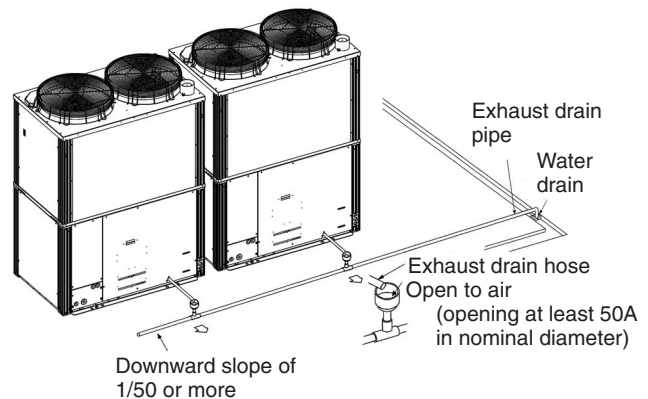

Fig. 13 Draining the exhaust into a water drain (roof)
- If connecting the outdoor unit's exhaust drain to a covered drainage basin or gutter, or draining multiple outdoor units to the same location, be sure to configure the pipes (as shown in Fig. 13) so that exhaust gases are discharged into open air. (Make sure that the opening in the receiving drain pipe is at least 50A in nominal diameter.) Exhaust gases flowing into the building or indoor/outdoor units may result in poisoning or corrosion of the unit.
- If installing the outdoor unit on a roof, extend the exhaust drain pipe to the water drain (as shown in Fig. 13).